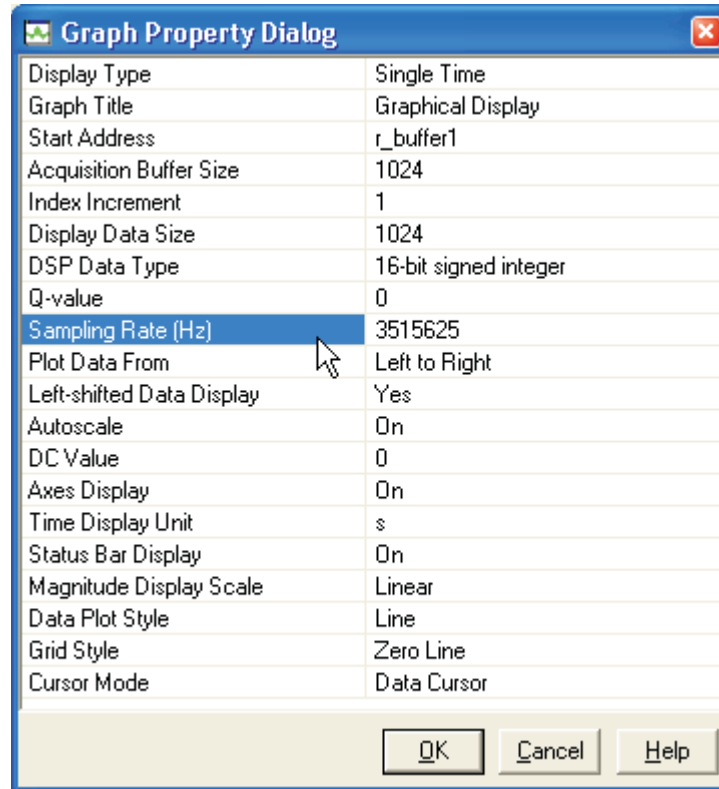

Figure 9. CCS Graph Property Dialog
- With this done, a new dialog window with the properties of the graph appears (see Figure 9). Here a few values must be entered, whereas the most settings can be left in the default position: